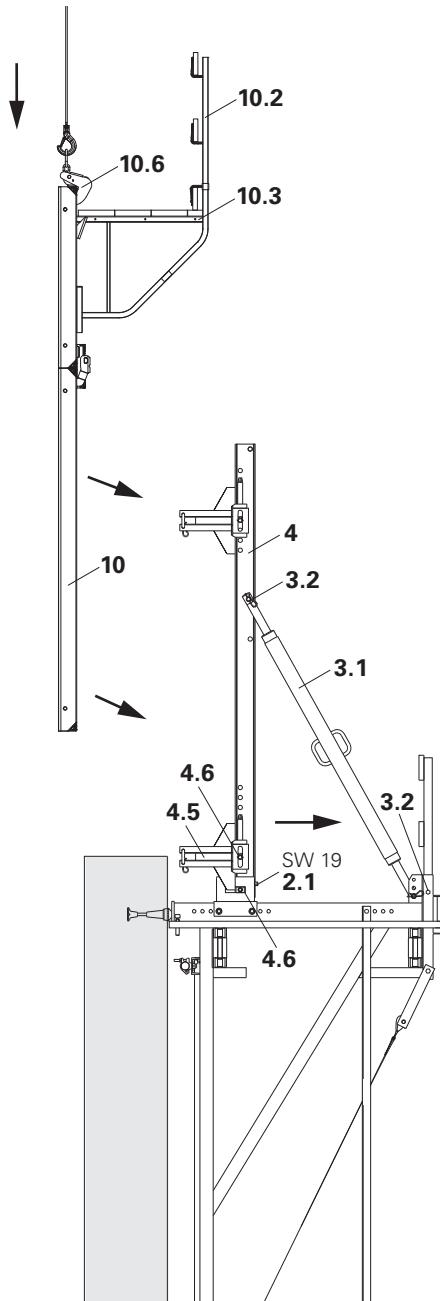

Fig. B2.22
2. Fix Connectors CB (4.5) to the Strongback CB (4) using bolts Ø 25 x 180 and cotter pins (4.6).
- (Fig. B2.22)